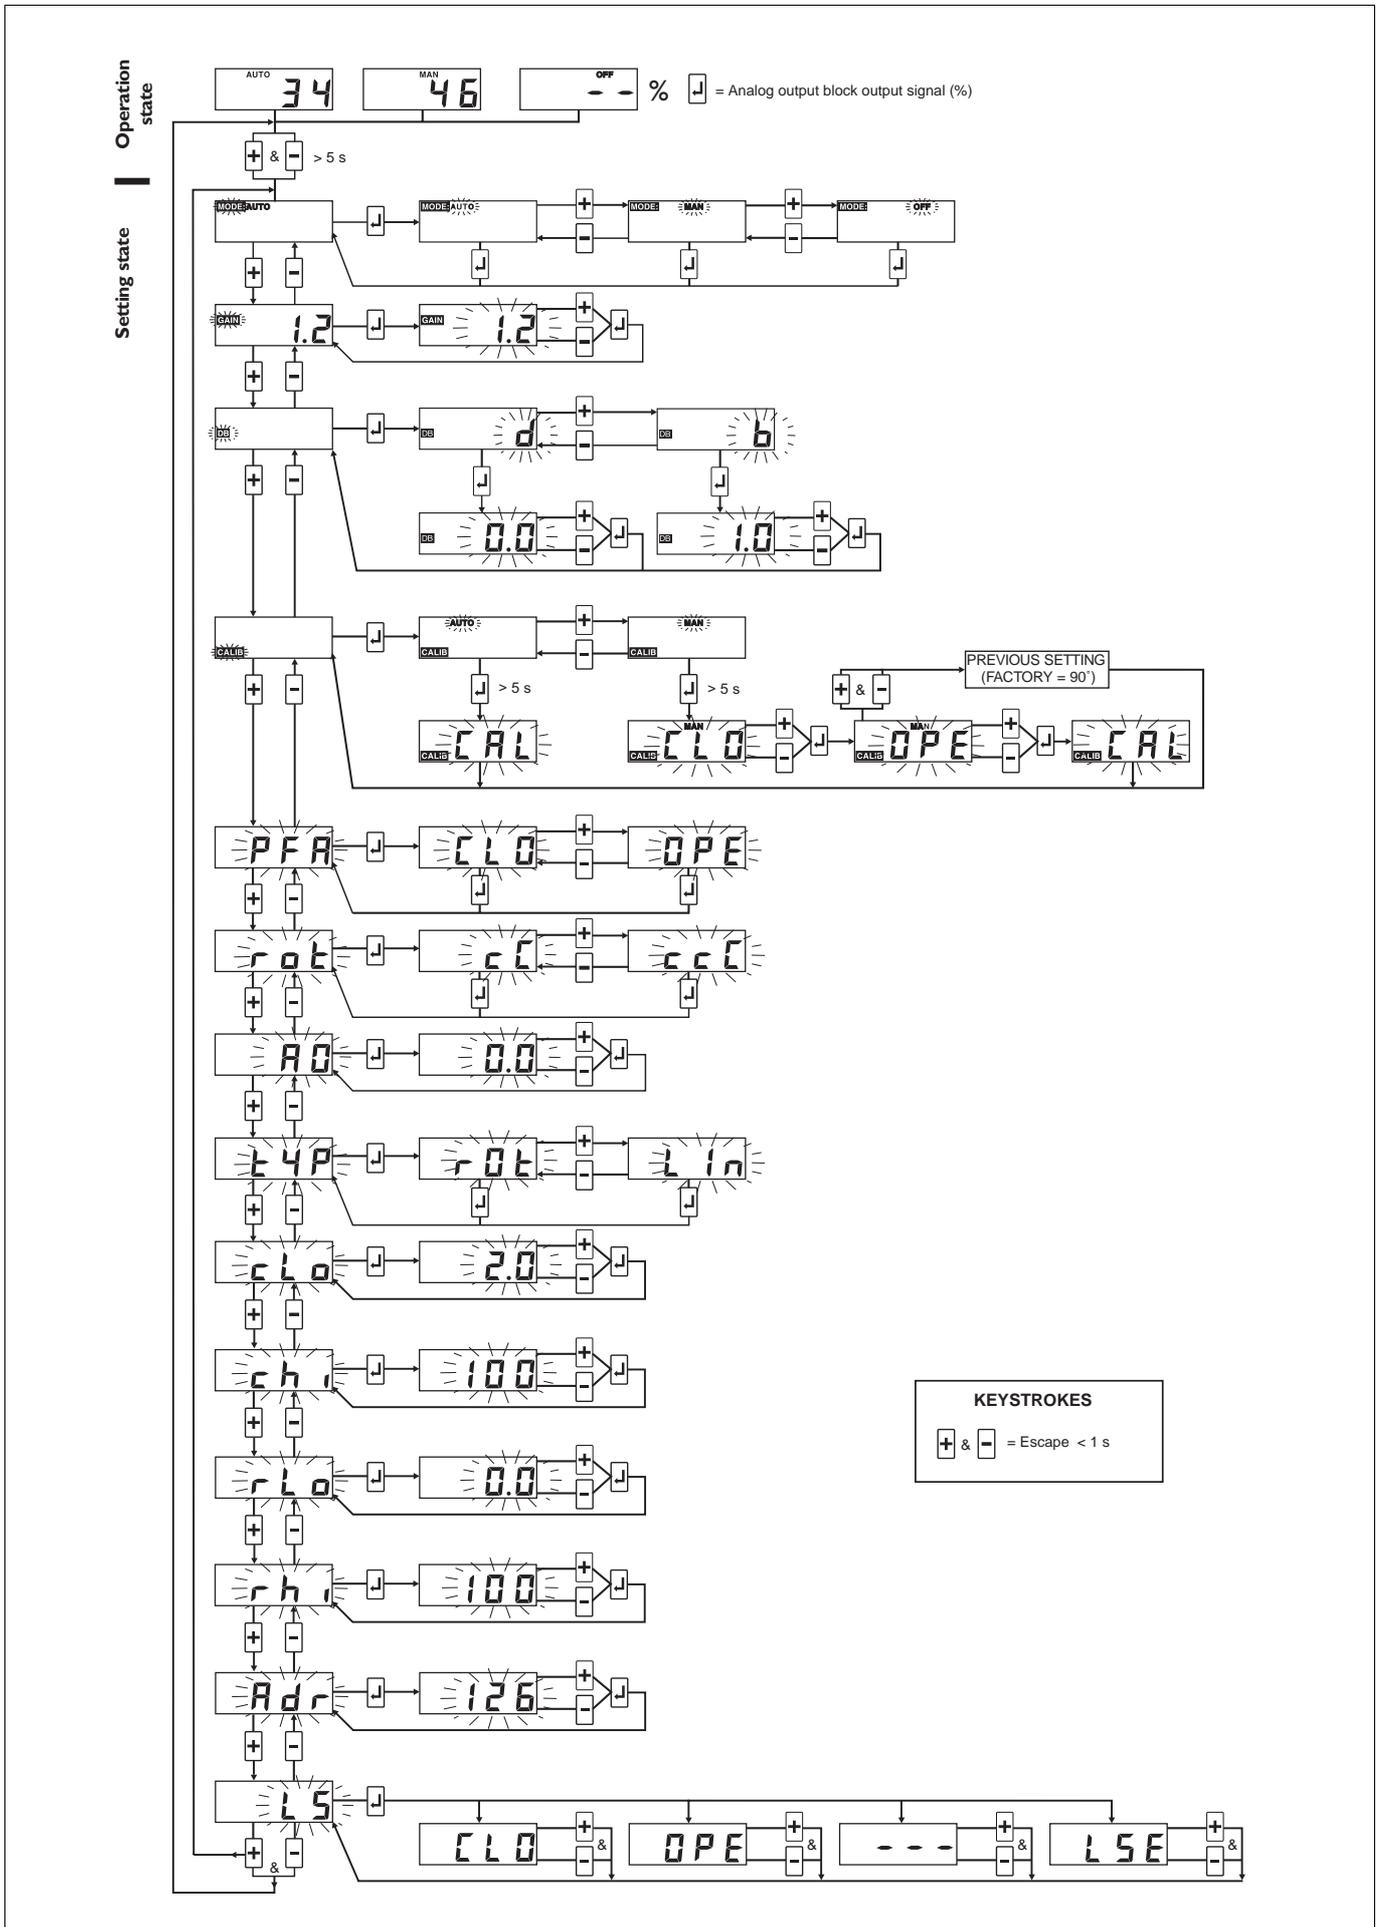

Fig. 10. Keyboard operations
- The **DB** parameters can be adjusted in the same manner. (See Fig. 10).
- To conclude press the \downarrow key when the desired value is shown on the display. See default values in Fig. 7 and functions in Fig. 10.
- After the desired value is displayed, press the key \downarrow to conclude the operation. See default values and tubing sizes in Fig. 7 and functions in Fig. 10.
- Press the \downarrow key to finalize your selection and return to the setting state. See Fig. 10 for functions.
- When *CLo* appears on the display, press the \square key and the current default value as a percentage (%) appears on the display. The Metso Automation' standard default value is 2 % (*2.0*). Now modify this value to the desired number and press the \square key to return to the setting state. See Fig. 10 for functions.